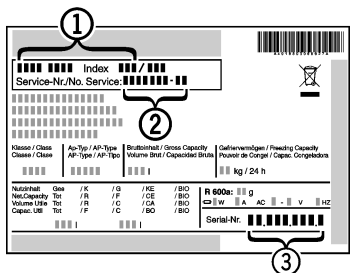

Fig. 8
- ▶ Read the appliance designation *Fig. 8 (1)*, service no. *Fig. 8 (2)* and serial no. *Fig. 8 (3)* from the rating plate. The rating plate is located inside the appliance on the left-hand side.
- Notify a qualified service provider, specifying the fault, appliance designation *Fig. 8 (1)*, service no. *Fig. 8 (2)* and serial *Fig. 8 (3)* no.